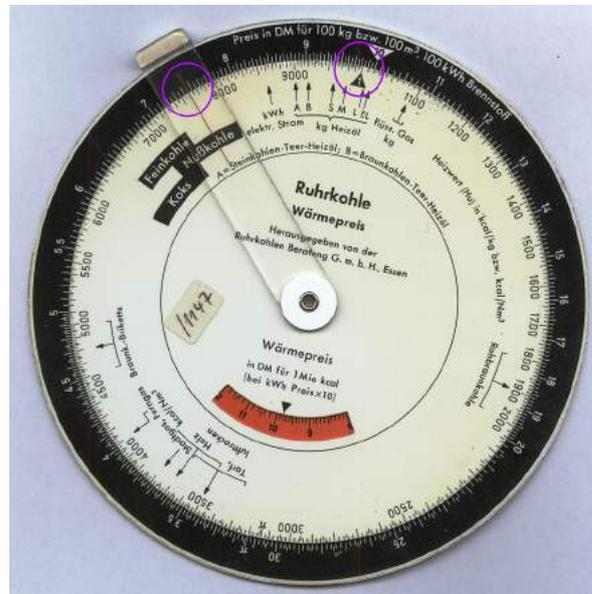

Figure 20: ARISTO 10157 Ruhrkohle Wärmepreis (top side)
ARISTO's No. 10157 was designed in 1956 for *Ruhrkohlen-Beratung* to calculate the costs in Deutsche Mark (DM) for 100 kg of different fuels like coal or fuel oil or in DM/100 m³ of gas. Besides different qualities of coal and coke also peat, wood browned briquette, electrical current, liquid gas and several quantities of liquid fuels can be chosen with the relevant range of their calorific value. In figure 20 nut coal with a calorific value of 7600 kcal/kg and costs of 7.45 DM / 100 kg gives a heat rate (*Wärmepreis*) of 9.80 DM / 1 Mio kcal.